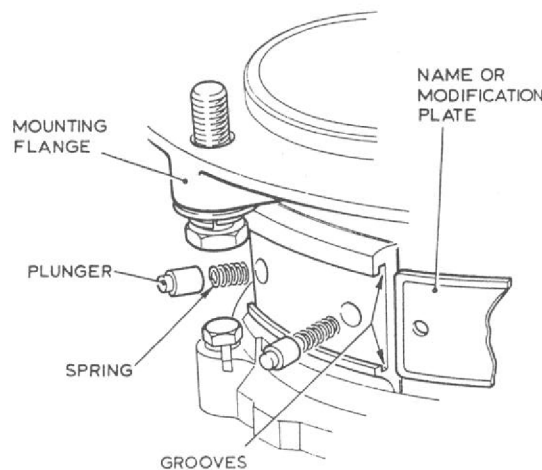

Fig.8 Starter motor name or modification plate attachment.
**Security of starter motor name and modification plates — STI/Misc/326 (fig.8)**